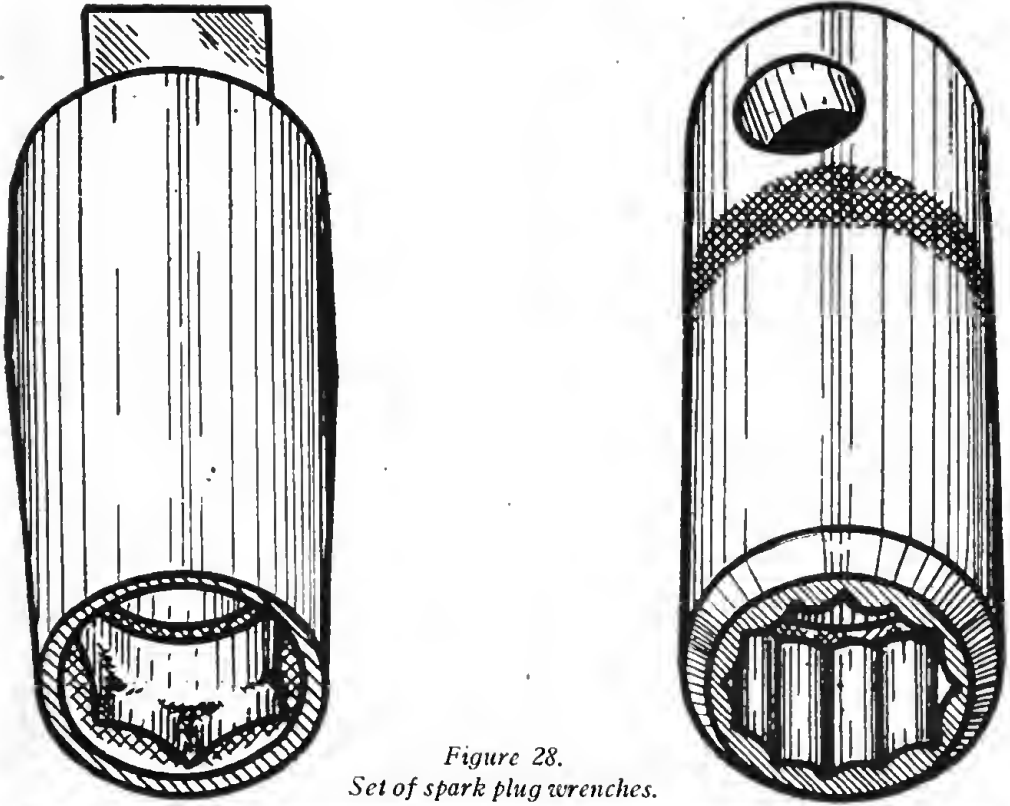

Figure 28.
h. SPARK-PLUG WRENCH. The spark-plug wrench is similar to a socket wrench but is much longer. The upper part of a spark plug protrudes so far that an ordinary socket does not reach to the hexagonal-shaped part of the spark plug. The spark-plug wrench is made deep enough that it will fit over the upper part of the spark plug and grip the hexagonal band near the base. These wrenches are made in various sizes, one of which fits every size of spark plug. They will fit standard socket handles and are used as any other socket wrench is used. Figure 28 shows a set of spark-plug wrenches.